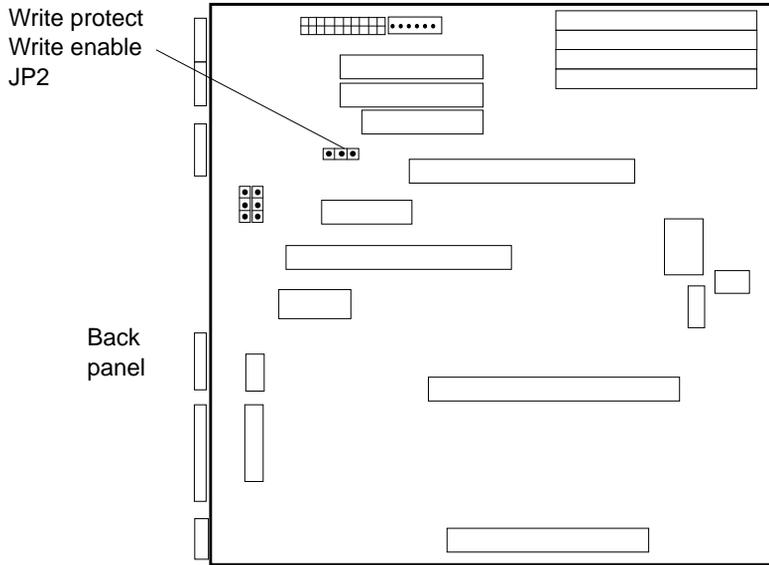

FIGURE 1-3 Sun Ultra 5/Ultra 10 Flash PROM Jumper Location on Motherboard
- For a Sun Ultra 5 or Ultra 10 system, see FIGURE 1-3 on page 1-5.